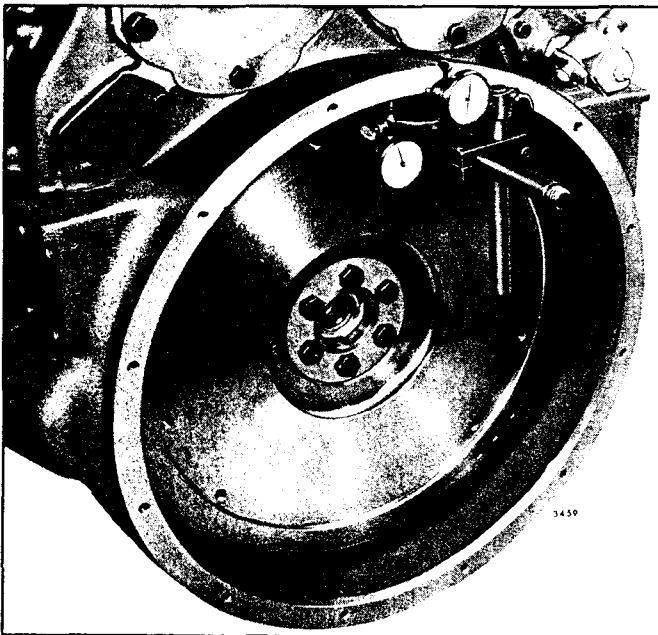

Fig. 9 - Checking Flywheel Housing Concentricity with Tool J 9737
- a. Refer to Fig. 9 and thread the base post J 9737-3 tightly into one of the tapped holes in the flywheel. Then assemble the dial indicators on the base post with the attaching parts provided in the tool set.